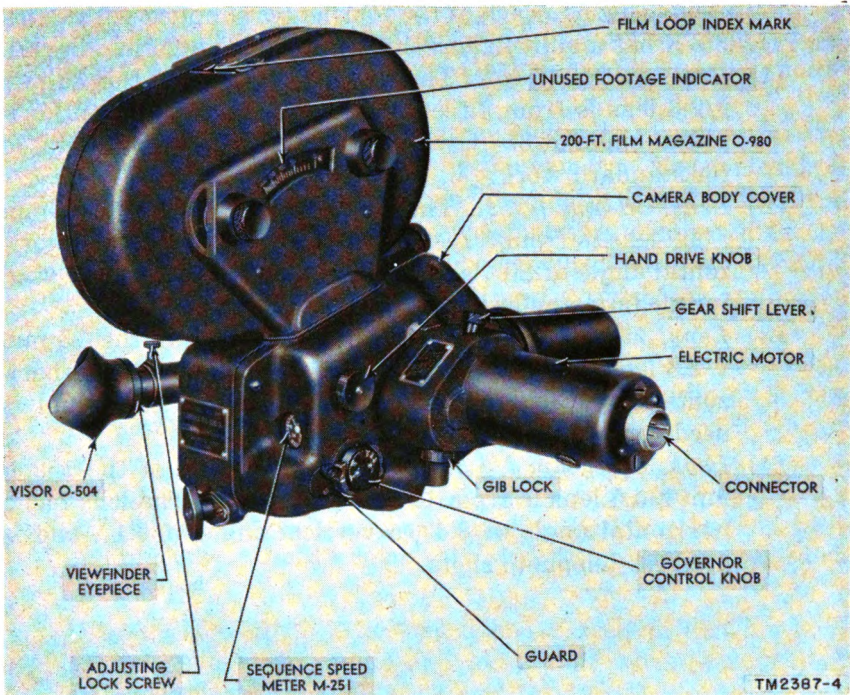

Figure 4. Camera, rear and right side.
- (3) *Governor control.* Camera speeds of 8, 16, 24, 32, 40, and 48 fps (frames per second) are indicated on a governor control knob (fig. 4). This control is located on the lower right side of the camera. The governor is set at the desired operating speed by turning the knurled knob so that the index marking coincides with the fps mark on the knob.
- (4) *Sequence speed meter.* The sequence speed meter (fig. 4) indicates the fps at which the camera is operating. The meter is marked 8, 16, 24, 32, 40, and 48 fps in steps of 2. The meter is located at the right rear of the camera.
- (5) *Viewfinder.* The viewfinder is an eye-level spyglass type which provides an upright image. The image is reflected
c. **MAGAZINES.** Three 35-mm magazines, two with a 400-foot and one with a 200-foot film load capacity, are furnished with Camera PH-330-K. Each magazine contains a feed and take-up compartment and spool. The magazines are set in the magazine depression on top of the camera and are secured by a movable gib (par. 16d). Each film magazine has a footage indicator (fig. 4) which shows the amount of unexposed film remaining in the feed compartment. The 200-foot magazine will accept 100-foot daylight-loading film spools.
- (1) *Electric motor.* The electric motor is mounted on the right side or the bottom of the camera. The motor is a two-speed, HI—LO unit and usually is operated from the 12-volt storage battery. The motor is connected to the battery by a cable assembly provided with an AN-type connector at the camera end and a twist-lock connector at the battery end.
- (2) *Spring motor.* One full winding of the spring motor drive will drive approximately 45 feet of film at a constant speed.
- (3) Pull the end of the film through the film feed and around the outside of the case to the film loop index mark (fig. 4) on top of the case. This produces the proper size film loop.
- (4) Thrust the trimmed end of the film into the other side of the light trap, and feed through with the idler gear after engaging perforations in the sprocket gear.
- (5) Attach the end of the film to the take-up spool, rotate the spool clockwise as indicated, and replace the magazine cover. *The emulsion side of the film must be on the outside of the loop.*
b. Before a scene is photographed, the operating lens on the turret must be focused on the scene. Rotate the camera with the hand drive knob (fig. 4) until the shutter is in position, back of the photographing lens. Observe through the viewfinder; the shutter is in the correct position when the image of the scene can be viewed. Rotate the lens barrel to bring the scene into focus.
a. The sequence speed is regulated by a governor in the camera which may be adjusted for different fps speed as required. The governor control knob located on the right side of the camera (fig. 4) is marked 8, 16, 24, 32, 40, and 48 fps. A sequence speed meter (fig. 4) calibrated in fps is located within the operator's view to enable the fps to be checked as required.
b. The electric drive unit has two ranges of speed, marked HI—LO on the drive unit gear box near the gear shift lever (fig. 4). The lever should be in the LO position for 8 to 24 fps operation, and in the HI position for 24 to 48 fps operation. If the lever does not move to the extreme points when changing from the HI to LO positions, rotate the hand drive knob (fig. 4) until the gears mesh.
Each film magazine has an indicator and scale which indicate the amount of unexposed film remaining in the magazine. This indicator is located on the right side of the film magazine (fig. 4).